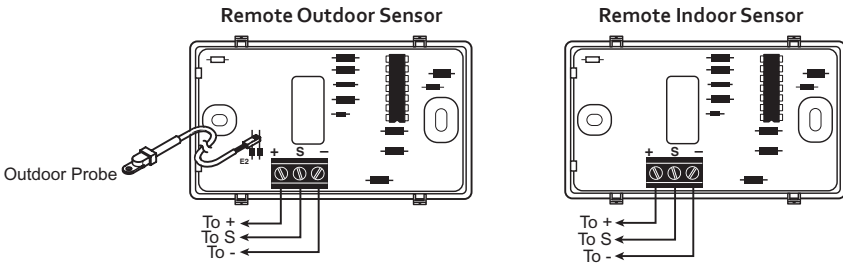

Figure 1 – Touchscreen Thermostat (ACONT302/303 & TCONT302/303)
6. Although connected to the probe wire for outdoor temperature sensing, the interior mounting base must be placed indoors. Therefore, the interior mounting base must be installed near the perimeter of the building, so that the probe wire can be run through to the outside of the structure and placed in the selected (shaded) location. The outdoor probe wire is 12 feet long (and should not be cut or spliced), so plan the placement of both the probe and interior mounting base accordingly. Any excess wire may be coiled or bundled. The probe should be connected to E2 as shown in figure 1.